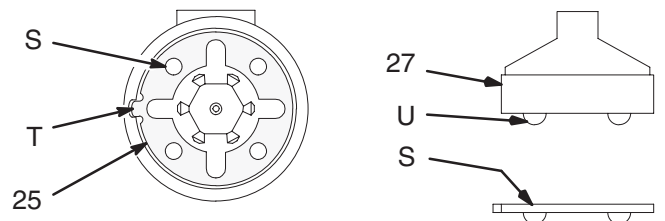

**Fig. 23**
8. Trigger gun while slightly turning packing nut (9) clockwise with packing wrench (K), provided. See Fig. 23. This will compress packings.